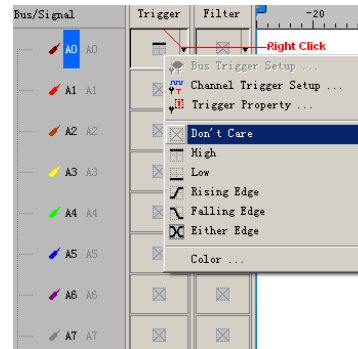

Fig 4-21 – Right Click on Trigger
2. Right click  to set the signal trigger condition as shown in Fig 4-21.